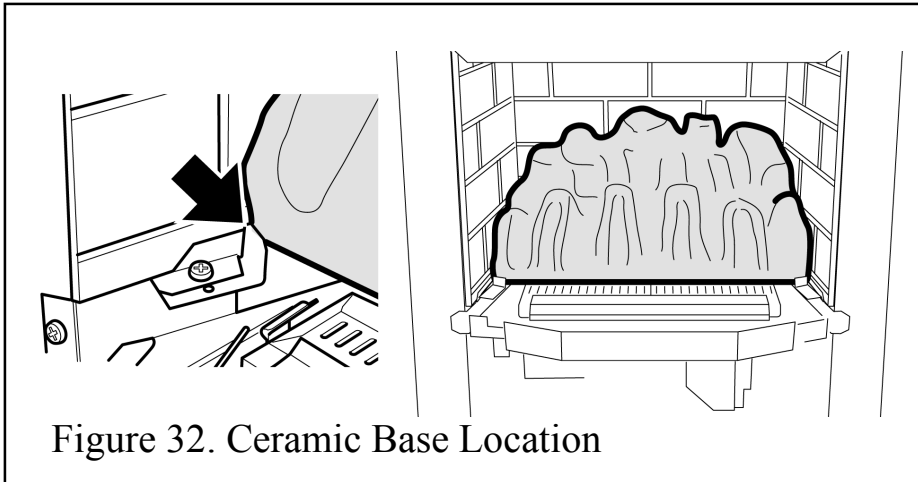

Figure 32. Ceramic Base Location
1. Place the ceramic base coal in the burner compartment. The bottom rear face of the coal should rest on the angled ledges at the back of the burner compartment. The bottom front edges of the coal base should locate against the left and right hand side brackets. (See figure 32).